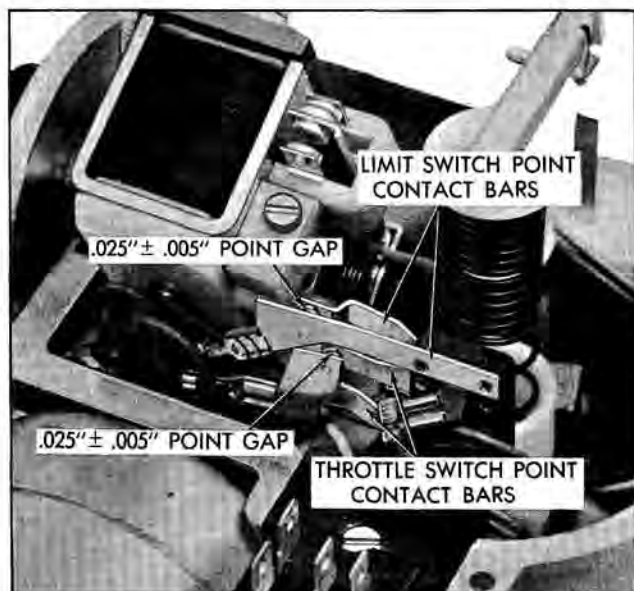

Fig. 12-41 Checking Limit and Throttle Switch
4. Using a feeler gauge, measure gap opening between points of limit switch, Fig. 12-41. This gap must be  $.025'' \pm .005''$ . If gap is not within specifications, bend inboard point contact bar of limit switch until proper gap is obtained and points are aligned.
7. Using a feeler gauge, measure gap opening between points of throttle switch, Fig. 12-41. This gap must be  $.025'' \pm .005''$ . If gap is not within specifications, bend inboard point contact bar of throttle switch until proper gap is obtained and points are aligned.